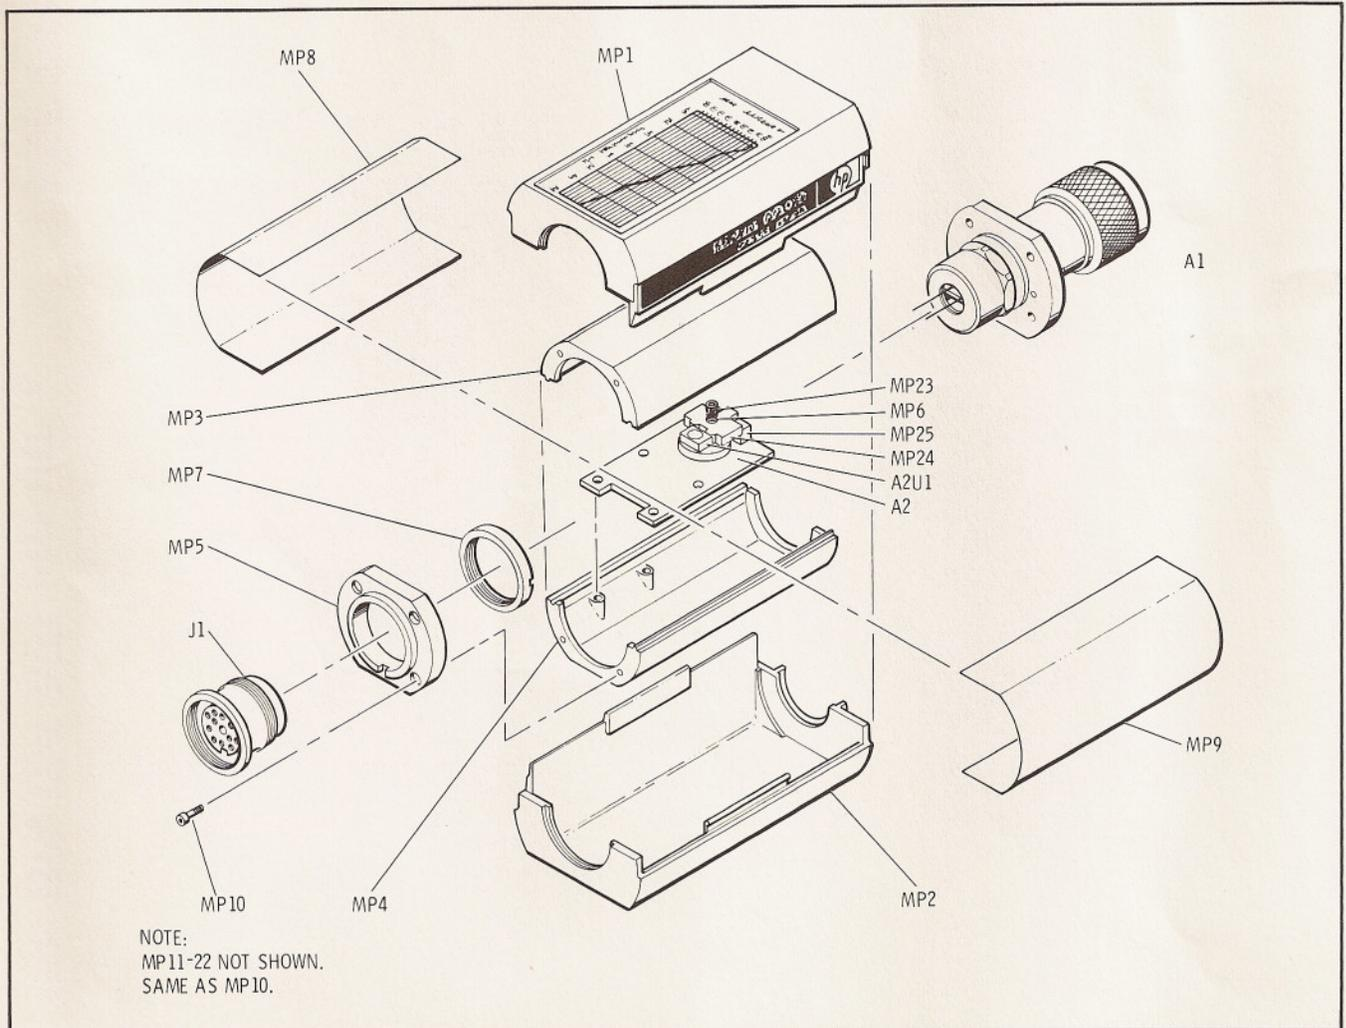

Figure 2. Illustrated Parts Breakdown
45. Table 5 is a list of replaceable parts. Figure 2 illustrates the major parts. To order a part listed in the Replaceable Parts table, quote the Hewlett-Packard Part Number with Check Digit (CD), indicate the quantity required, and address the order to the nearest Hewlett-Packard office.